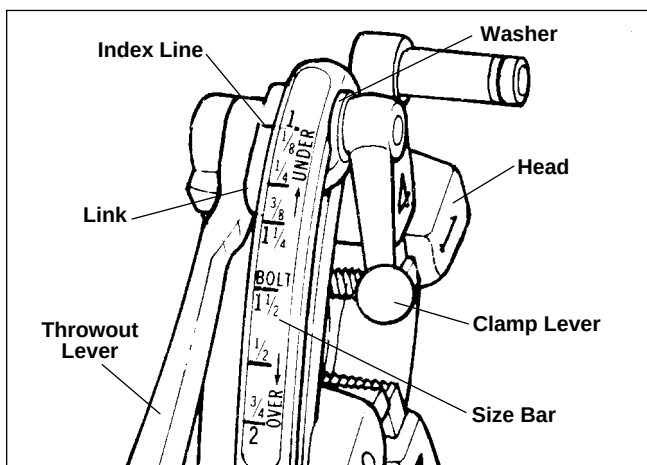

Figure 10 – Nos. 713 and 913 Quick-Opening Die Heads
7. a. Quick-Opening Die Head (*Figure 10*) – When thread is completed, raise throwout lever to open head position, retracting dies.
The Nos. 713 and 913 Die Heads (*Figure 10*) for left-hand threads require three sets of dies to thread pipe ranging from $\frac{1}{4}$ " through 2". One set of dies is required for each of the following pipe size ranges: ($\frac{1}{4}$ " - $\frac{3}{8}$ "), ($\frac{1}{2}$ " - $\frac{3}{4}$ ") and (1" - 2").